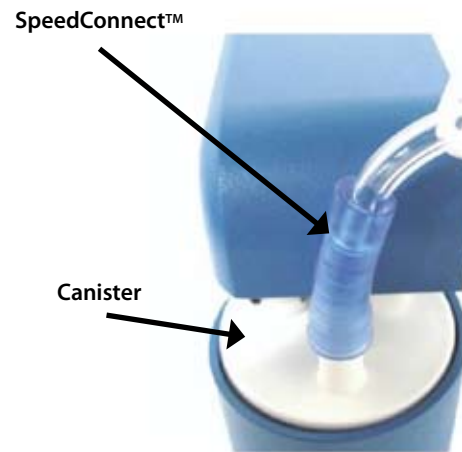

Figure 6
3. Connect the distal end of the SpeedConnect™ Tube with the blue tapered connector to the Patient port of the Canister (see Figure 6). Gently twist and push the connector on just enough to secure and seal it. Also, make sure that the clamp on the SpeedConnect™ Tube is open (see Figure 7).